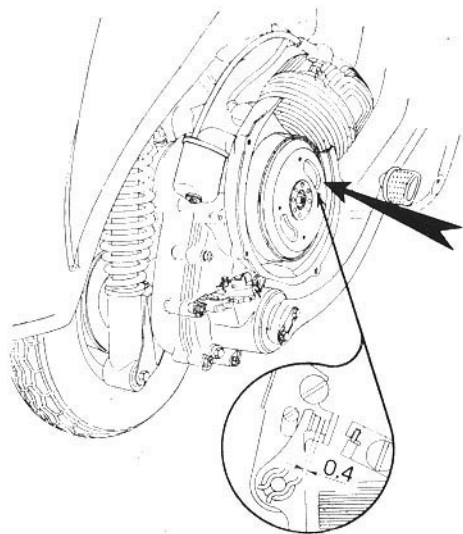

Fig. 21 - Breaker points
6) - Clean and adjust the breaker points of the flywheel magneto (see Fig. 21), to 0.4 mm gap (0.015 in).